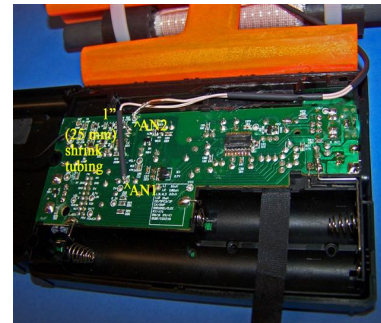

Figure 36
34) Refer to Figure 36 for the next few steps. Note the position of the "AN1" and "AN2" Litz wire connection terminals, and temporarily place the loose Litz wire leads
adjacent to them. Measuring about 1" (25 mm) past the Litz wire lengths necessary to reach these two terminals when routed as shown in Figure 36, cut off the excess Litz wire lengths (in a clean manner). Cut a 1" (25 mm) length of shrink tubing and install it over the longer Litz wire lead (only), temporarily placing it as far away as possible from the end of the Litz wire.
a clean soldering iron for at least 1/4" (6 mm). After doing this, cut off the tinned section on both ends to a length of 1/8" (3 mm). When viewing the ends of the Litz wires after tinning, the entire 1/8" (3 mm) length should be bright and shiny all around its circumference (as in the AN2 terminal photo in Figure 36).
36) Refer to Figure 36. Reinstall the 1 1/2" (38 mm) section of shrink tubing in the clamp as shown, with the two Litz wires running to their applicable AN1 and AN2 connection points (and the 1" length of shrink tubing still on the longer lead, as far as possible from the end). Ensure that only 1/8" (3 mm) of tinned solder is on the ends of